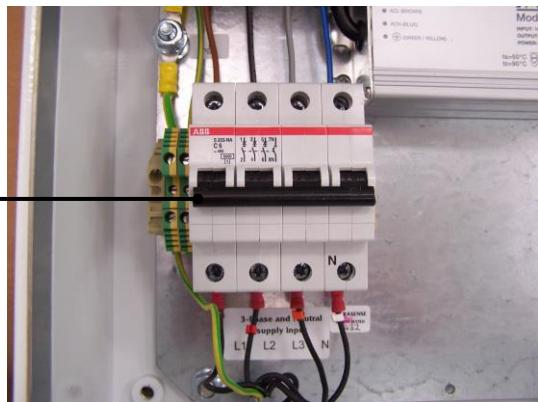

Fig 3.0
Switch off the mains supply to the SFP and wait for a few seconds while the power supply discharges. Open the door with the key provided, switch off at the internal circuit breaker (1) (see Figure 3.0).